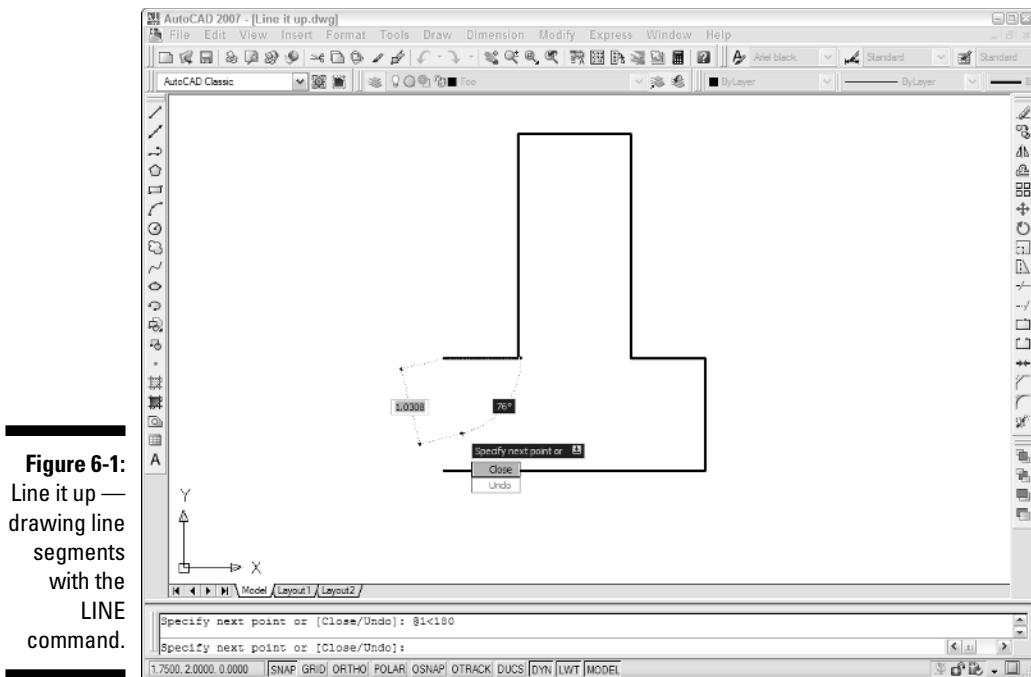

Figure 6-1:
- Type C and press Enter, or press the down arrow on your keyboard and choose Close from the menu (as shown in Figure 6-1), to close the figure.